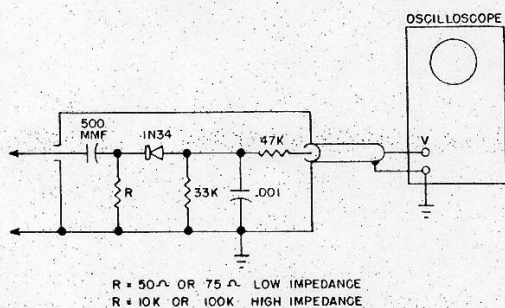

FIGURE 8 DETECTOR PROBE
3. Connect the diode probe Figure 8 from the scope to the Red Test Point.
- B. Place detector probe on line driver grid. (See Figure 8)